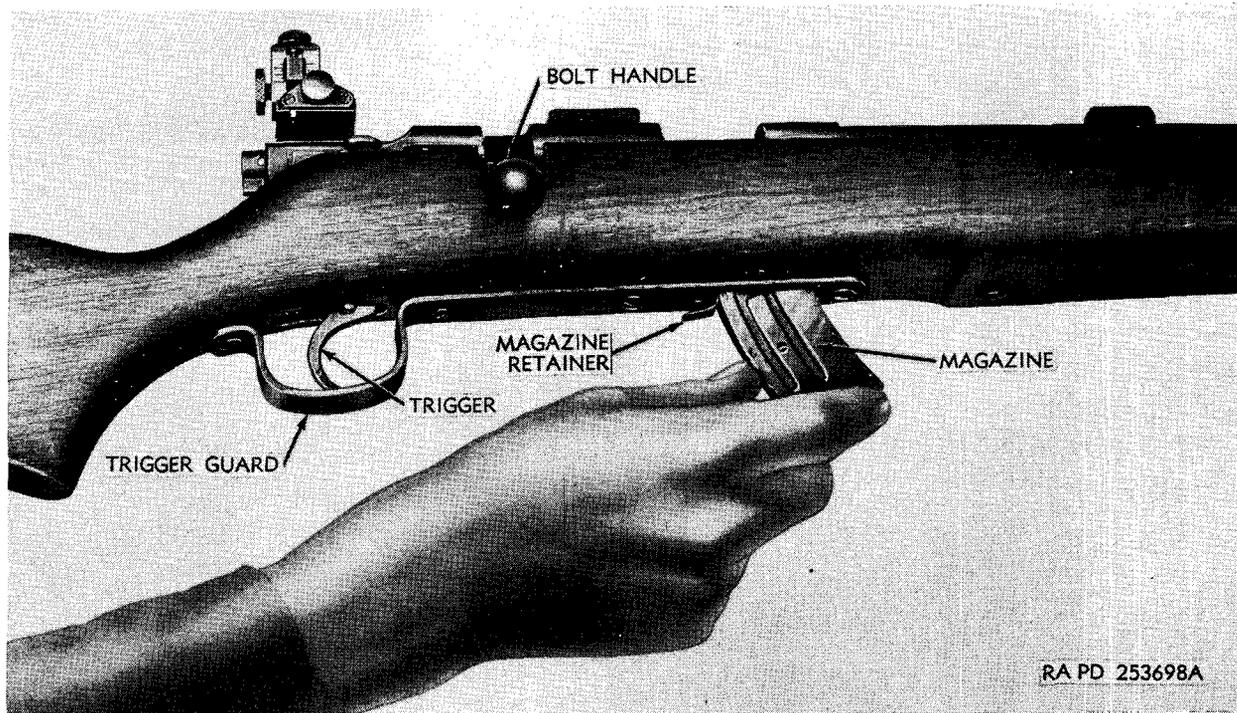

Figure 25. Installing or removing magazine (Stevens rifle M416-2T).
- (1) *Insert magazine.* Insert loaded magazine (par. 22) through the magazine opening at the bottom of the receiver just forward of the trigger guard (fig. 25) and push upward until locked in place. If an extra cartridge is to be used, proceed as in (2) below. If an extra cartridge will not be used, rotate the bolt handle up and draw entirely to rear; then push bolt handle forward and rotate down against the receiver slot. This action cocks the rifle and pushes the top cartridge from the magazine into the chamber.
- (2) *Insert extra cartridge.* An extra car-
- (1) *Remove chambered cartridge.* To unload a fired or live cartridge, rotate the bolt handle up and draw entirely to the rear.
- (2) *Remove magazine.* Press the magazine retainer (fig. 25) back toward the trigger and pull out the magazine.